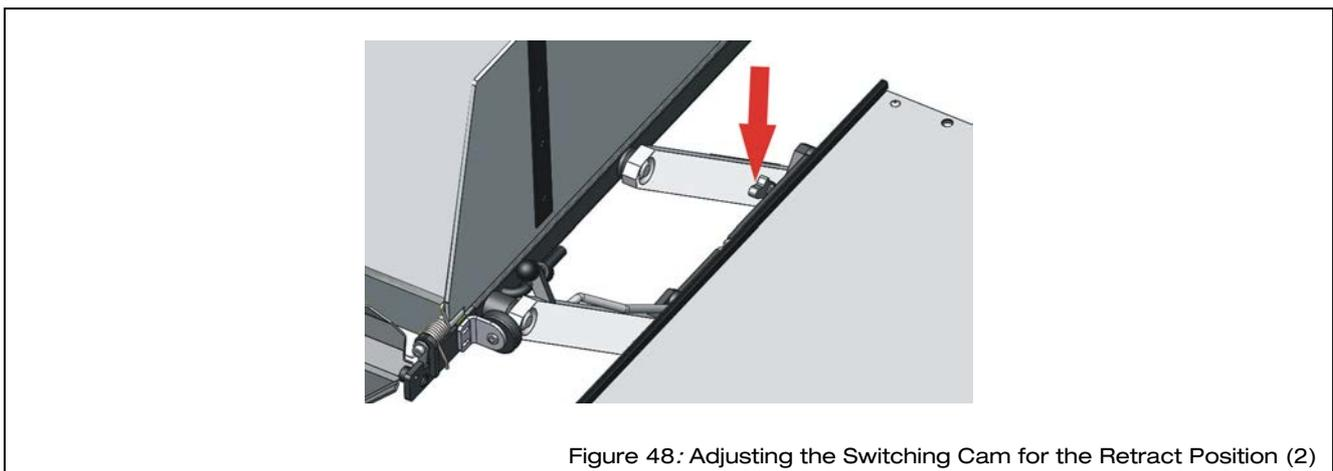

Figure 48: Adjusting the Switching Cam for the Retract Position (2)
- ⇒ Adjust the switching cam by hitting it lightly from above with a hammer (see Figure 48). In order to prevent damage to the switching cam, place a protective block (e.g. of wood or aluminium) between the hammer and switching cam.